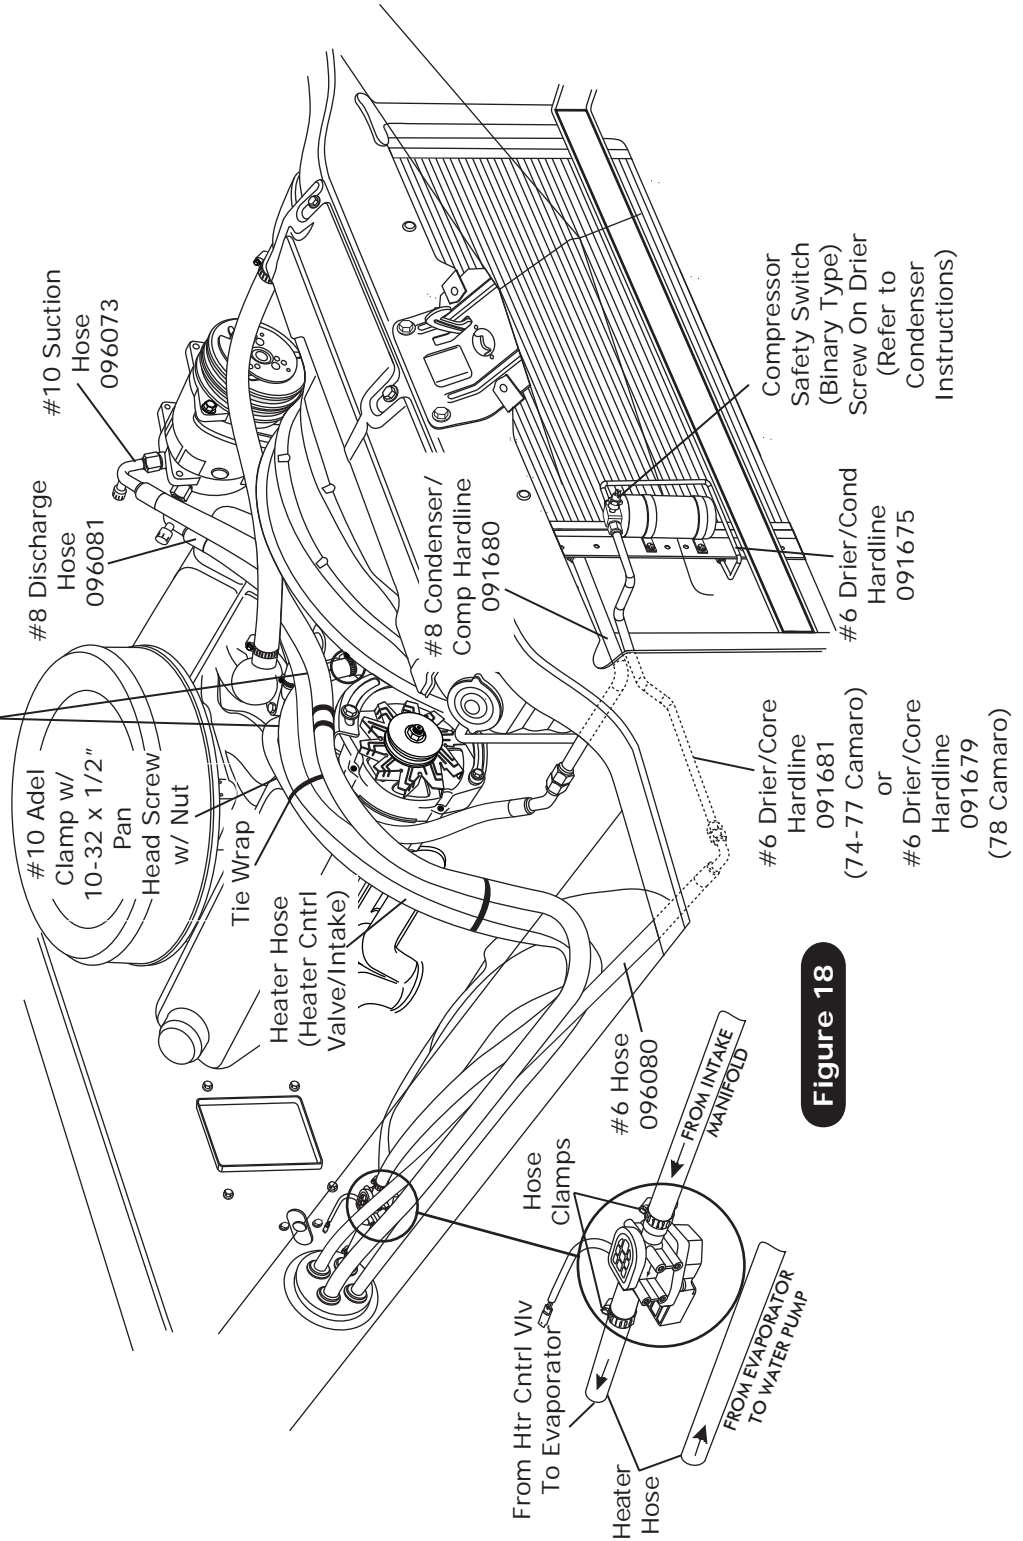

Figure 18
1. Locate the #8 compressor A/C hose. Lubricate (2) #8 O-rings (See Figure 16, above) and connect the 90° female fitting w/ R134a service port to the #8 discharge port on the compressor. Route the 45° female fitting to the #8 condenser hardline coming through the core support (See Figure 18, Page 18). Tighten each fitting connection as shown in Figure 16, above.
2. Locate the #10 compressor A/C hose. Lubricate (2) #10 O-rings (See Figure 16, above) and connect the #10 135° female fitting w/ R134a service port to the #10 suction port on the compressor. Route the 90° female fitting to the #10 evaporator (See Figure 12a, Page 13, and Figure 18, Page 18). Tighten each fitting connection as shown in Figure 16, above.
3. Locate the #6 evaporator A/C hose. Lubricate (2) #6 O-rings (See Figure 16, above) and connect the 90° female fitting to the #6 hardline coming through the core support from the drier. Route the 90° female fitting to the #6 evaporator (See Figure 12a, Page 13, and Figure 18, Page 18). Tighten each fitting connection as shown in Figure 16, above.
1. Route a piece of heater hose from the water pump to the top heater fitting of the heater core as shown in Figure 12a, Page 13, and Figure 18, below. Secure using hose clamps.
2. Route a piece of heater hose from the intake to the bottom heater fitting of the heater core as shown in Figure 12a, Page 13, and Figure 18, below. **NOTE: Install heater control valve in line with intake manifold (pressure side) heater hose, and secure using hose clamps as shown in Figure 18, below. Also note proper flow direction.**